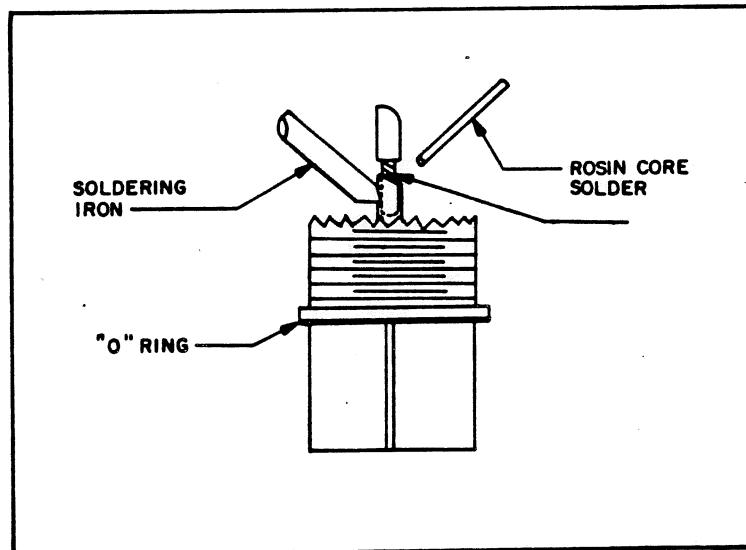

Figure 9-10. Joining Cables to Connectors
1. Strip the wire and insert it in the pot - when bottomed, approximately 1/32" of the wire should be exposed above the pot, (see Figure 9-10). Cut wire to fit.